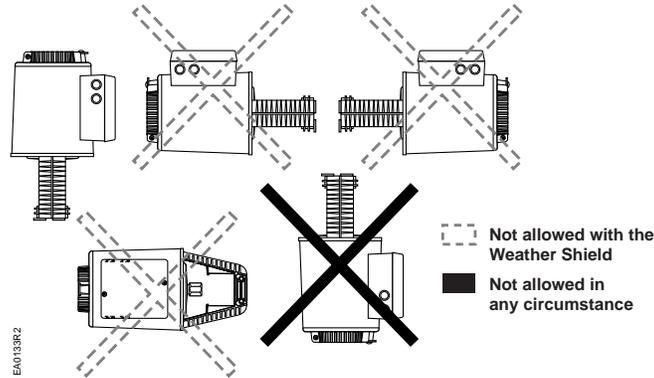

Figure 1. Acceptable Mounting Position.
2. The SKB/C actuator is UL listed to meet NEMA Type 3R rating (a degree of protection against rain, sleet, and damage from external ice formation) when installed with this Weather Shield in the orientation shown in Figure 1.